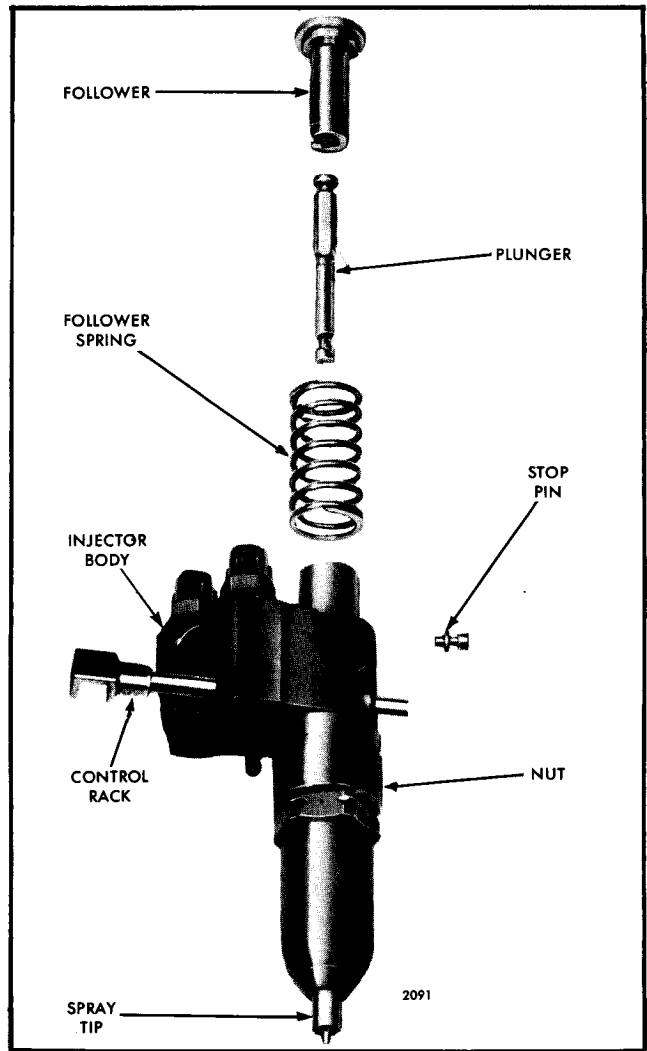

Fig. 32 - Injector Plunger, Follower and Relative Location of Parts
1. Refer to Fig. 32 and slide the head of the plunger into the follower.